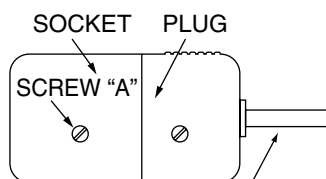

Fig. 1
1. Loosen screw "A" sufficiently to remove the socket cover. (See Fig. 1.)